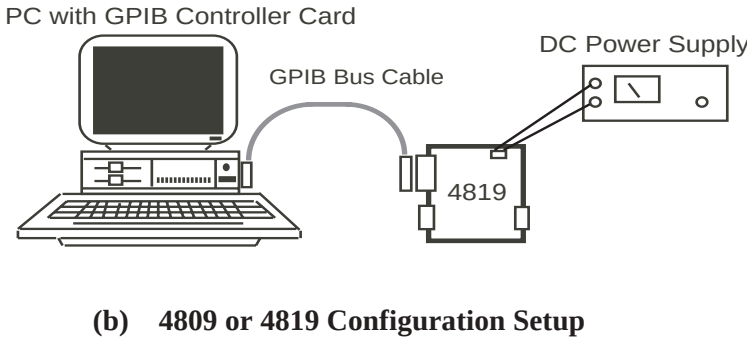

Figure 2-2 Configuration Setups
If you have an HP 9000 series computer that runs Rocky Mountain Basic and has a HP-IB interface, you can adapt the program shown in Figure 2-2 to configure the 4807 or use HP's live keyboard function to output SCPI commands and query the unit. For other computers, the SCPI configuration commands can be put in a program or entered from the computer's keyboard. Section 2.8 provides general instructions on writing your own configuration program and provides program examples in HP BASIC that can be easily adapted to your favorite programming language with GPIB commands.
1. Connect the 4899 to the GPIB controller card in the PC as shown in Figure 2-2(a). Connect a DC power supply to the unit.
Connect the 4809 or 4819 to the GPIB controller card in the PC as shown in Figure 2-2(b). Connect a DC power supply to the power terminal strip. Set jumper W2 to the P1 position. Set the power supply to 5 ± 0.2 Vdc.
1. Connect the unit to the GPIB controller as shown in Figure 2.2
1. Connect the unit to the GPIB controller as shown in Figure 2-2 Use an Abort, REN or a take control type command to have the bus controller assert REN. Then turn the unit on.